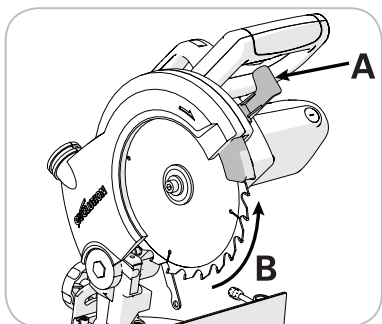

Fig. 24
- Press the lower blade guard locking lever **(A)** and rotate the lower blade guard **(B)** up and into the upper blade guard. **(Fig. 24)**